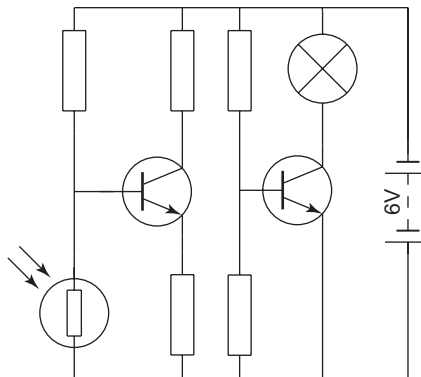

Fig. 9.18 Example using the **DesignCenter** – the completed circuit
Using the DesignCenter (Fig. 9.18)
6. Complete the circuit drawing as shown in Fig. 9.18.
Figure 9.18 does not represent an authentic electronics circuit.